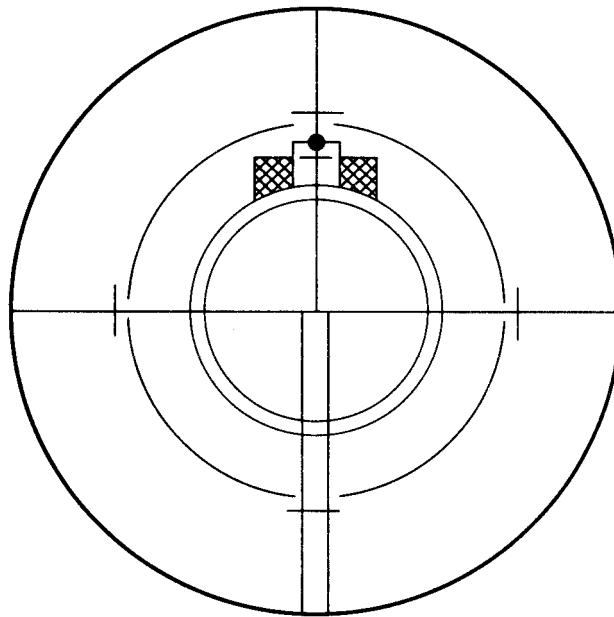

Figure 5-5. Theodolite Reflected Image
- d. Adjust the theodolite so the reflected image of the theodolite sight is centered on the vertical crosshair. See figure 5-5. Lock the clamping screws and readjust as necessary.